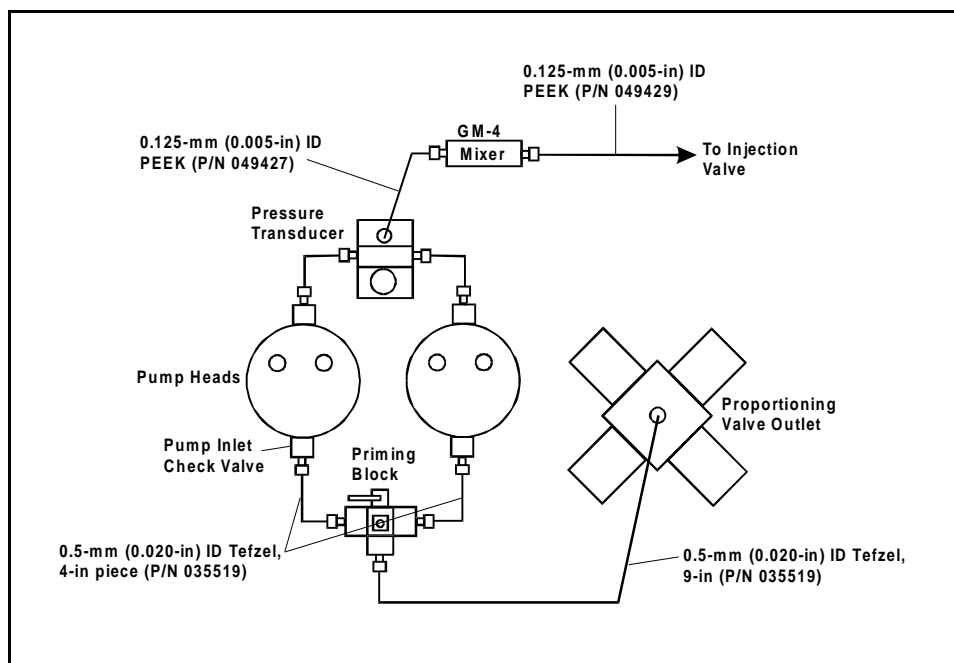

Figure D-5. Microbore Liquid Line Connections
11. Locate the 9-in and the two 4-in pieces of 0.5-mm (0.020-in) ID Tefzel (P/N 035519) tubing in the kit. Connect the 9-in piece between the proportioning valve outlet and the priming block inlet (see Figure D-5), using two 1/4-28 reversed-ferrules (P/N 048950) and fittings (P/N 048952) for the connections. Connect a 4-in piece between each priming block outlet and pump inlet, using 1/4-28 reversed-ferrules and fittings for the connections. Tighten fittings fingertight, then an additional one-eighth turn (2 in-lb). Tighten further only if leaks occur. **DO NOT OVERTIGHTEN.**
12. The GM-4 gradient mixer installs between the eluent outlet of the GP40 pressure transducer and the inlet of the injection valve (see Figure D-5). Disconnect the tube fittings from the pressure transducer outlet and the injection valve inlet.